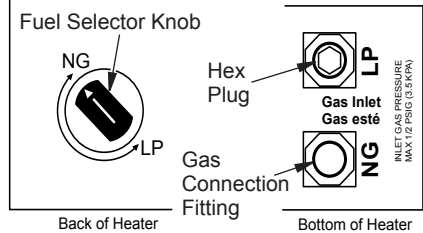

Figure 15 - Settings for Natural Gas Selection
1. Remove top screw from cover plate located on back of heater (see Figure 15). Rotate to expose fuel selection device.
2. For NATURAL GAS, press knob using a flat screwdriver with a blade with thickness of a quarter and turn knob clockwise until the knob locks into the NG position (see Figure 15). Fuel selection device must be locked in the NG position. Do not operate heater between locked positions!
4. Remove hex plug (with wrench provided) from natural gas inlet of regulator (see Figure 15). Install hex plug into LP inlet of regulator. Install gas line into NG inlet of regulator. Use thread sealant to ensure that there are no leaks.